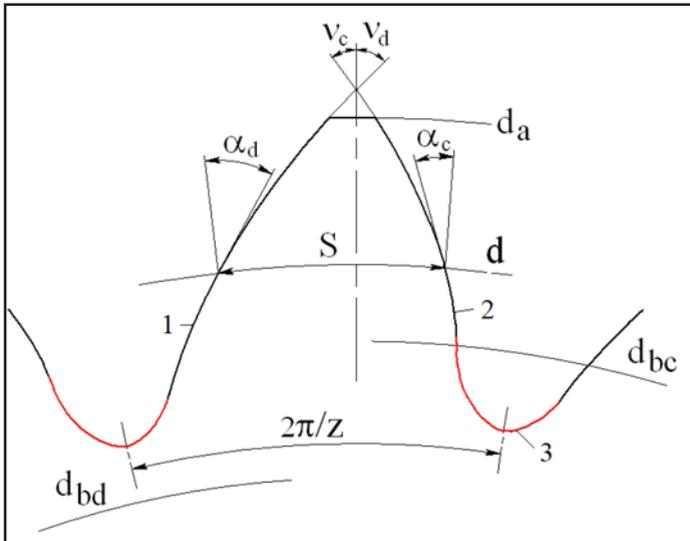

Figure 9 Asymmetric gear tooth profile construction.
*Direct Gear Design* describes an asymmetric gear tooth construction similarly to a symmetric one, but in this case, it is formed by the involute drive and coast flanks unwound from two different base circle diameters  $d_{bd}$  and  $d_{bc}$  (Fig. 9).